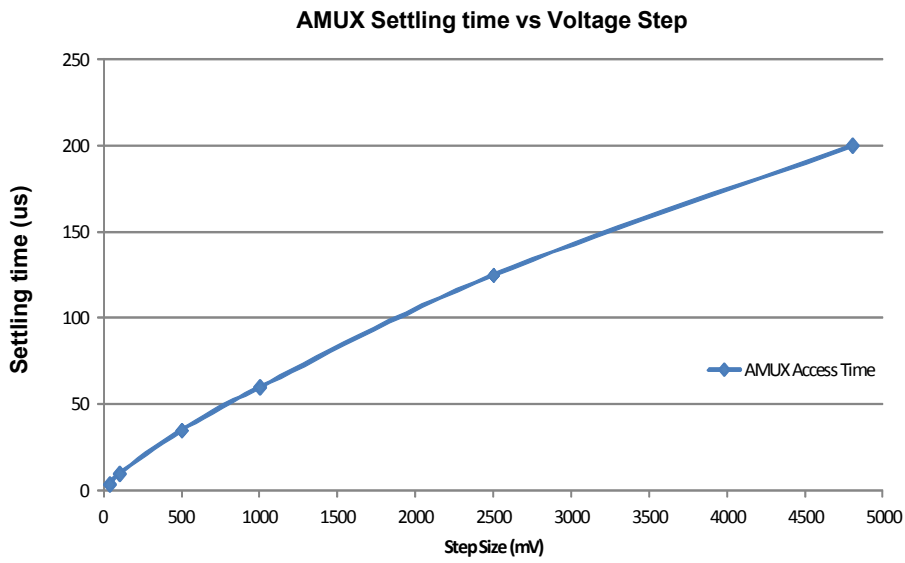

Figure 9. AMUX Access Time Waveform
- 24. AMUX settling time to be within the 10 mV offset specification. AMUX_{VALID} is dependant of the voltage step applied on the input SGx/SPx pin or the difference between the first and second channel selected as the multiplexed analog output. See Figure 9 for a typical AMUX access time VS voltage step waveform.